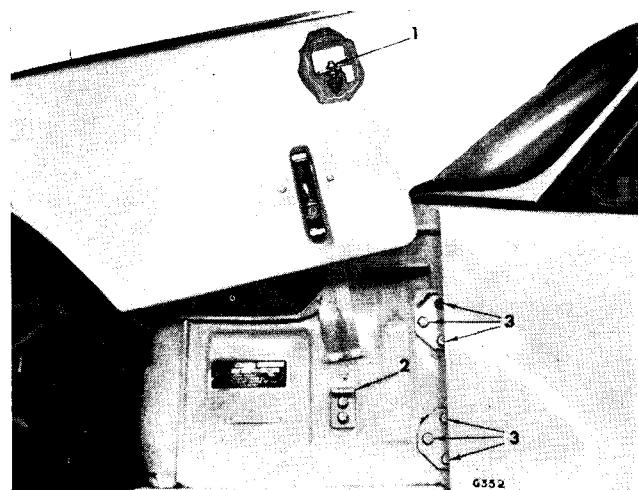

Fig. 12. Bonnet height adjustment
Remove the bonnet catch brackets (2) (Fig. 12) and fit the lifting brackets to the body.
Height Adjustment. Rear (Fig. 12)